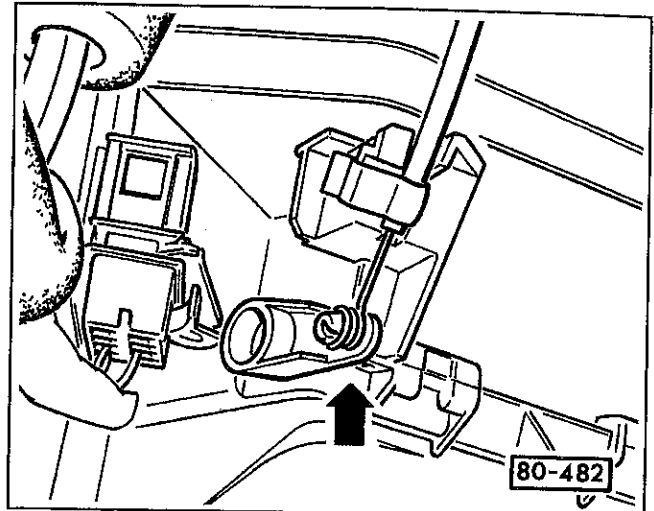

Fig. 8. Push footwell/defroster lever against stop (direction of arrow), then install cable retaining clip.
4. Push lever to stop. See Fig. 8.